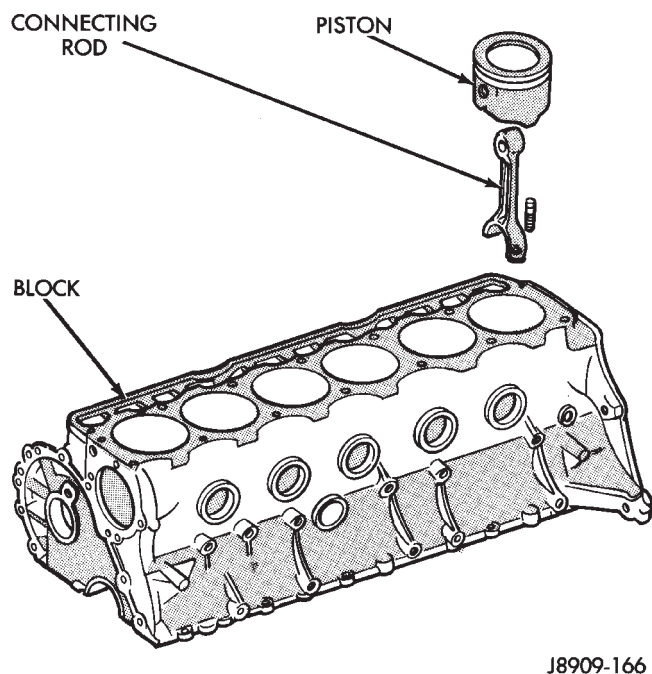

Fig. 10 Removal of Connecting Rod and Piston Assembly
(11) Have an assistant push the piston/connecting rod assemblies up and through the top of the cylinder bores (Fig. 10).